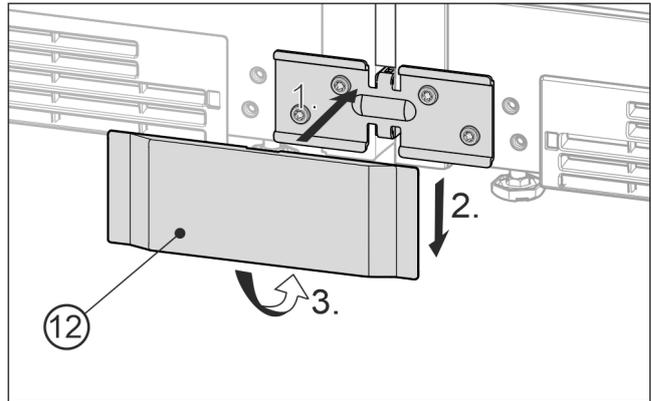

Fig. 25 Example illustration
- ▶ Place the bottom cover Fig. 25 (12) onto the bracket from the front Fig. 25 (1), slide it down Fig. 25 (2) and snap it in at the bottom Fig. 25 (3).